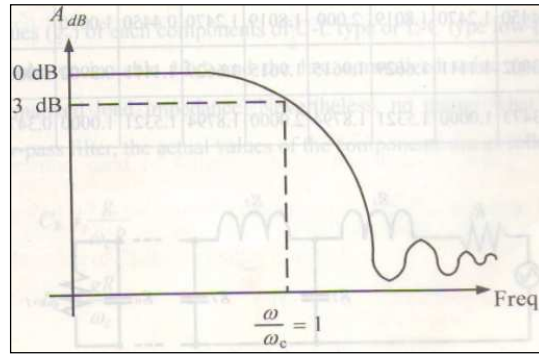

Fig: 3
(1) **Butterworth Filter.** This type of filter is known as maximally flat filter since no ripples are permitted in the pass band. The attenuation of transition band is not sharper than Chebyshev filter. Typical response of Butterworth LP filter is given in fig. 3.